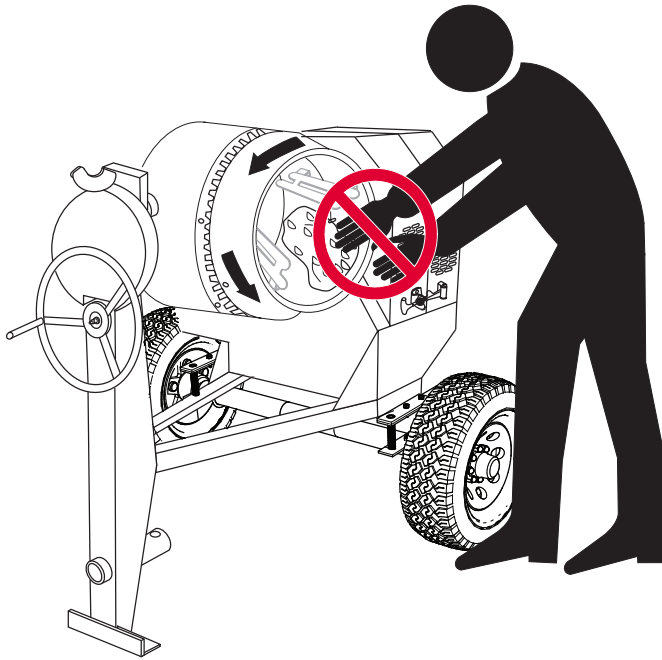

Figure 16. Filling Mixing Drum
3. Placing the shovel all the way inside the drum (Figure 16) will cause the shovel to strike the blades. This condition will make the shovel rotate, and could cause injury to personnel. NEVER place hands inside the mixing drum while it is rotating.